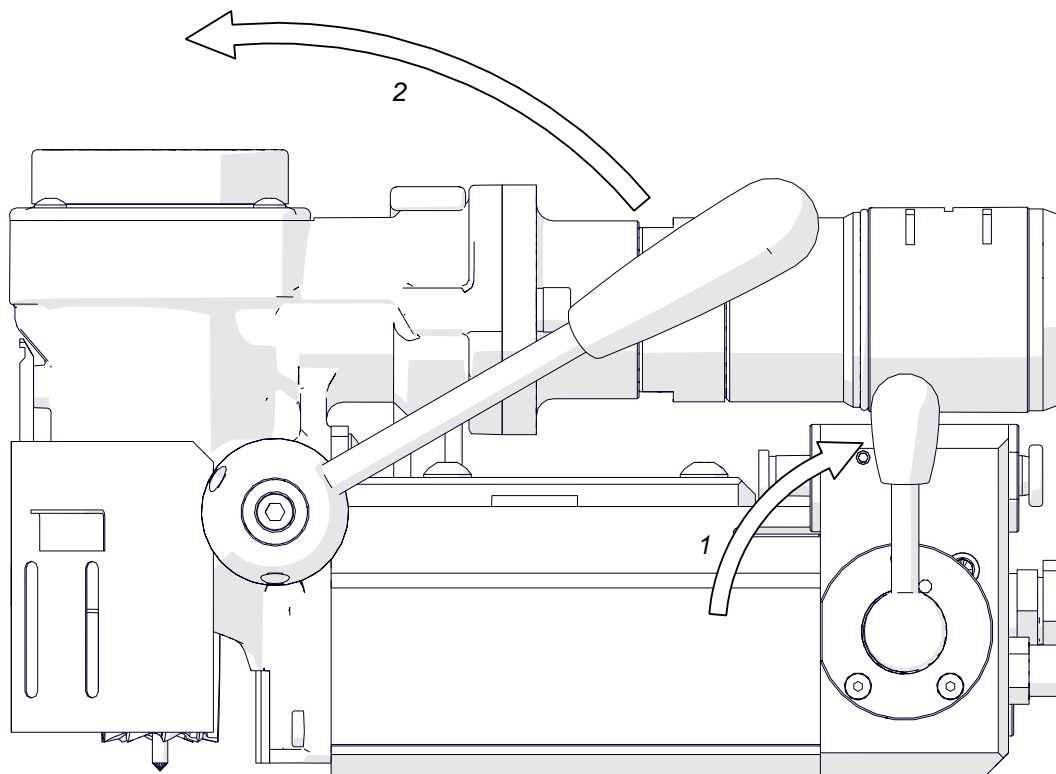

Fig. 8. Starting the motor
Start the motor by positioning the MOTOR lever vertically (1, Fig. 8). Rotate the feed lever counterclockwise (2) to bring the cutter close to the workpiece. Then, gently begin drilling, maintaining constant pressure on the lever. Accomplish the hole in one pass.